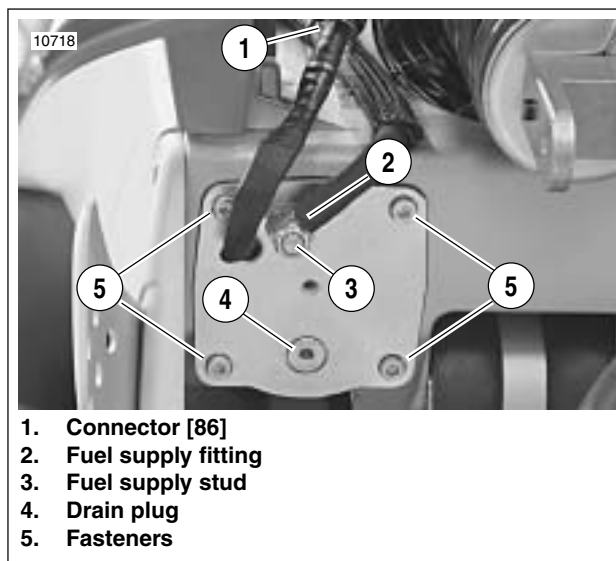
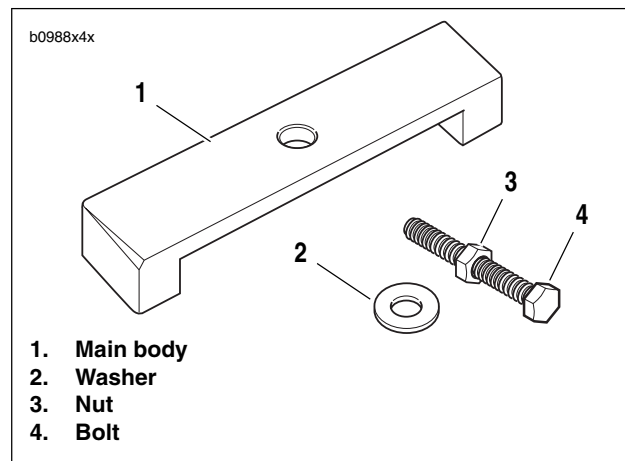
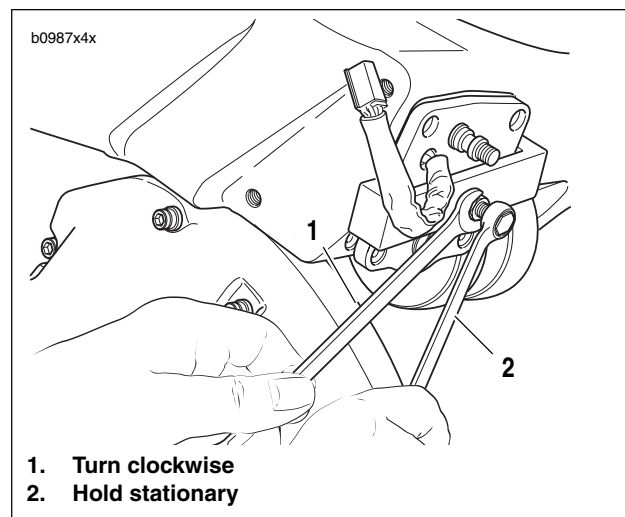

Figure 4-85. Fuel Pump Location
Figure 4-86. Fuel Pump Puller
Figure 4-87. Fuel Pump Removal
- a. See Figure 4-85. Disconnect the 4-place fuel pump connector (2) [86]. Connector is located inside the left rear portion of the fuel tank/frame.
4. See Figure 4-85. Remove fuel line from fuel supply fitting (4).
5. Remove four fuel pump fasteners (1).
6. See Figure 4-86. Assemble fuel pump puller.
- a. Thread nut (3) onto bolt (4).
- b. Slide washer (2) onto bolt.
- c. Insert bolt assembly into hole in main body (1).
7. See Figure 4-87. Place the main body of the fuel pump puller over the fuel pump assembly.